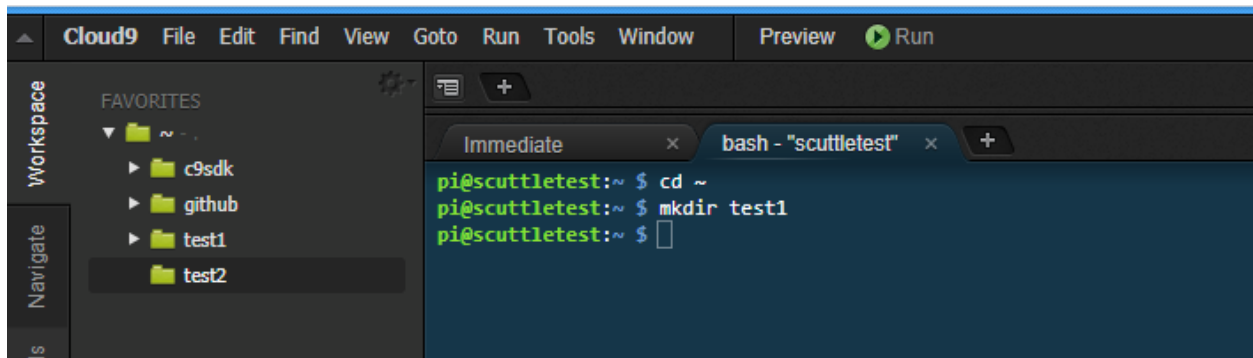

Figure 8
- iii. Then name the new folder *test2* like in Figure 8: